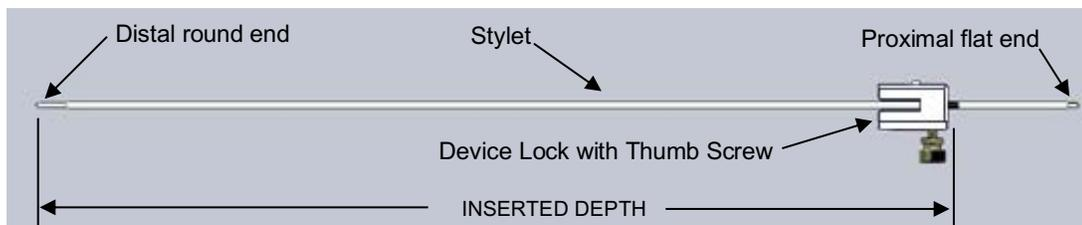

Figure 32: Device Lock attached to the Stylet
- Position the Device Lock on the depth mark on the Stylet and tighten the thumb screw. The inserted depth of the Stylet is defined by the proximal side face of the Device Lock to the distal tip of the Stylet. Confirm the length using the Ruler. **See Figure 32.**
6. Set the inserted depth on the device from the distal end of the device to the top of the Device Lock using the Ruler. Lock the device to the Device Lock with the thumb screw. Verify the measured inserted depth. Alternately, the bottom of the Depth Stop can be located at the appropriate position and locked into place on the device with the thumb screw prior to inserting the device into the Device Lock. **See Figure 32 and Figure 1833** for similar placement of the Depth Stop or Device Lock onto Stylet.